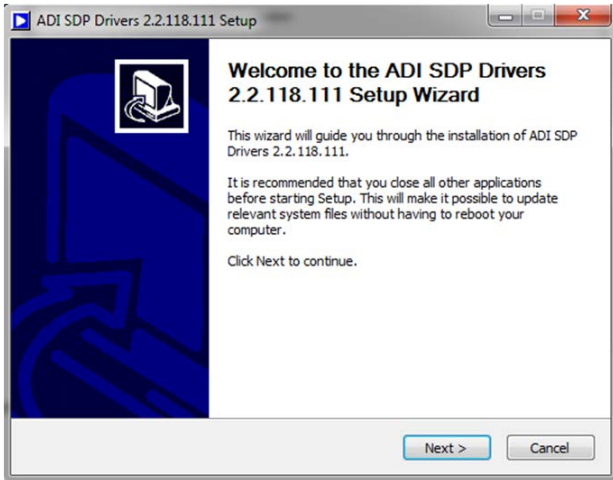

Figure 9. SDP-H1 Driver Setup
7. Ensure that the SDP-H1 board is disconnected from the PC and click **Next** when the SDP driver wizard appears (see Figure 9).